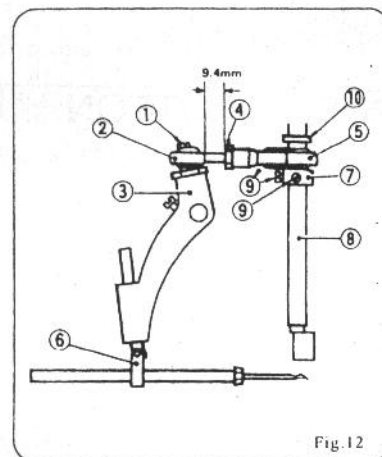

Fig. 12
4 - 5. For replacement or adjustment of Ball Rod, refer to Fig. 12.
The position of Needle is adjusted so that the distance between the point of Needle (at its highest position) and Throat Plate is 13 mm, after loosening screw on Needle Bar Connection Assembly ⑥ in Fig. 12.